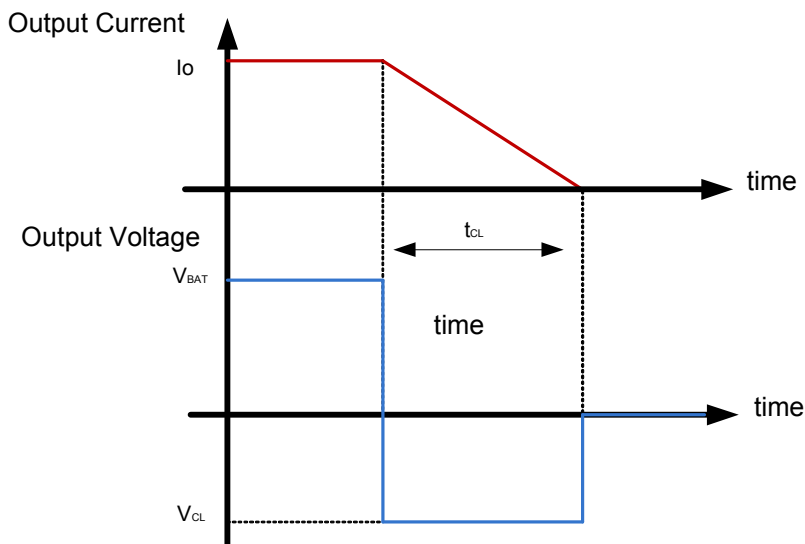

Figure 22. Simplified negative output clamp waveform
In case of an inductive load (L), the energy is dissipated after the turn-off inside the N-channel MOSFET. When $t_{\text{CL}} (=I_{\text{O}} \times L / V_{\text{CL}}) > 1.0\text{ ms}$, the turn-off waveform can be simplified with a rectangle as shown in Figure 22.